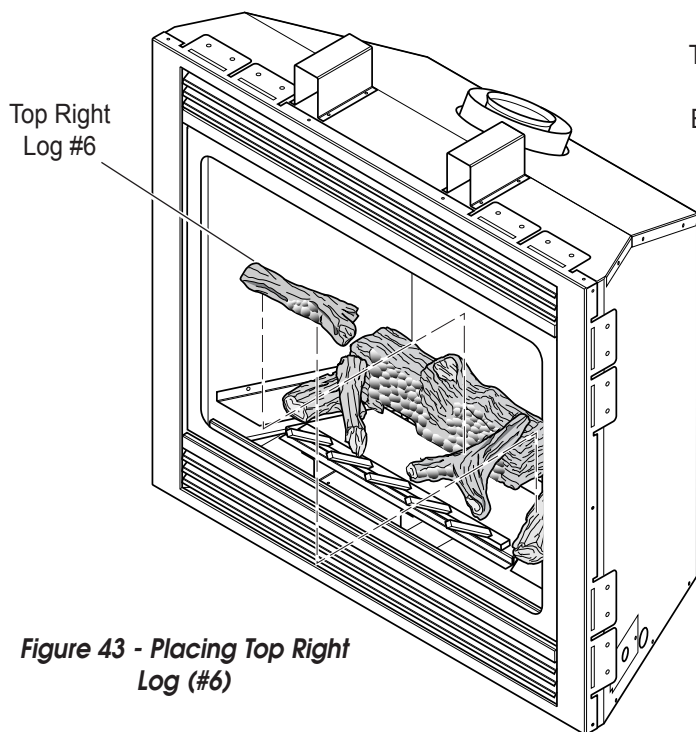

**Figure 42 - Placing Bottom Center Log (#5)**
5. Place back end of bottom center log (#5) on right notch of rear log. Rest front “Y” shape on burner as shown in *Figure 42.*